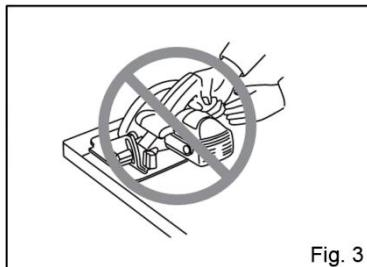

Fig. 3
- ALWAYS hold the tool firmly with both hands. NEVER place your hand or fingers behind the saw. If kickback occurs, the saw could easily jump backwards over your hand, leading to serious personal injury. (**Fig. 3**)